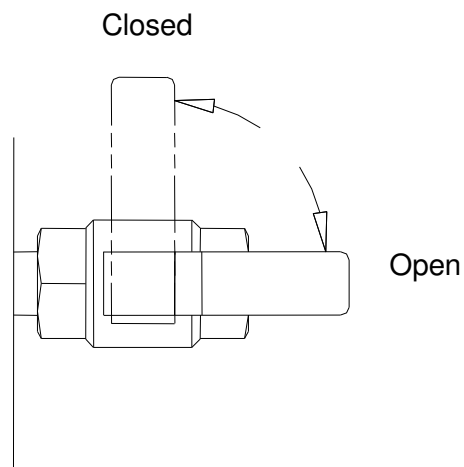

Figure 4: Ball valve
- III. Make sure that the water valve is closed. See Figure 4: Ball valve